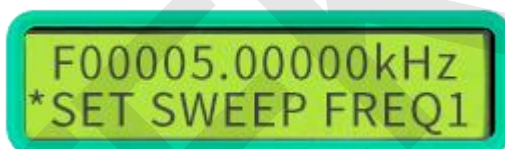

Figure 2-11-1
- In the main interface, press the key **【WAVE/PgUp】** or **【AMPL/PgDn】** to enter the initial frequency setting interface of the sweep function, and then adjust the initial frequency to 5kHz as an example as shown in Figure 2-11-1 below: